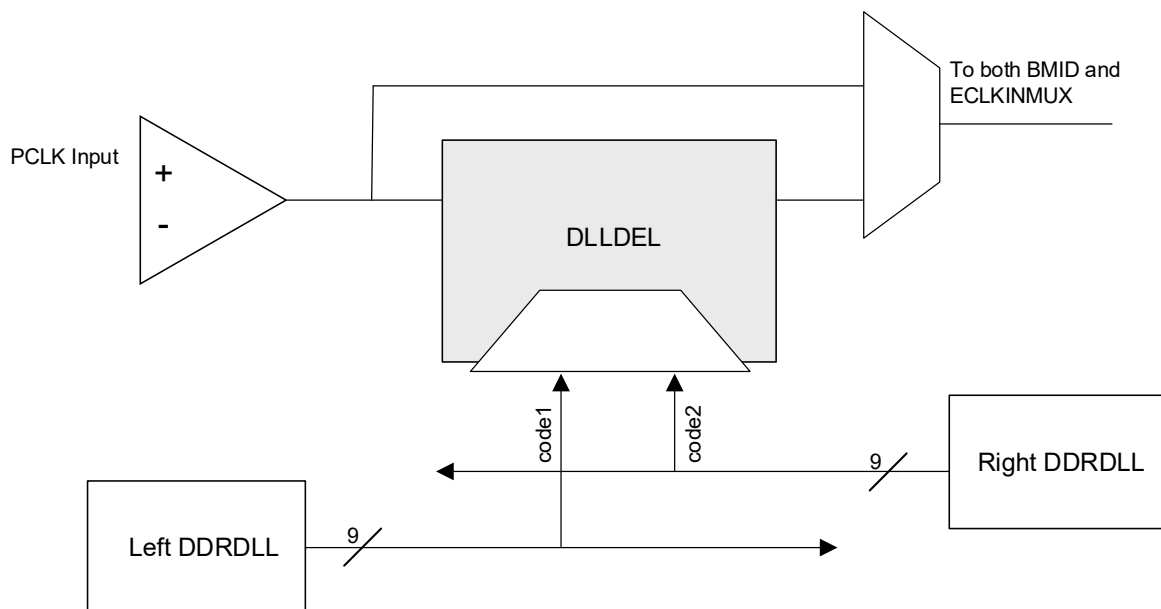

Figure 2.11. DLLDEL Functional Diagram
- The value is also sent to another slave DLL, DLLDEL, which takes a primary clock input and generates a 90-degree shifted clock output to drive the clocking structure. This is useful in an edge-aligned Generic DDR interface, where 90-degree clocking needs to be created. Not all primary clock inputs have associated DLLDEL control. Figure 2.11 shows DDRDLL connectivity to a DLLDEL block.